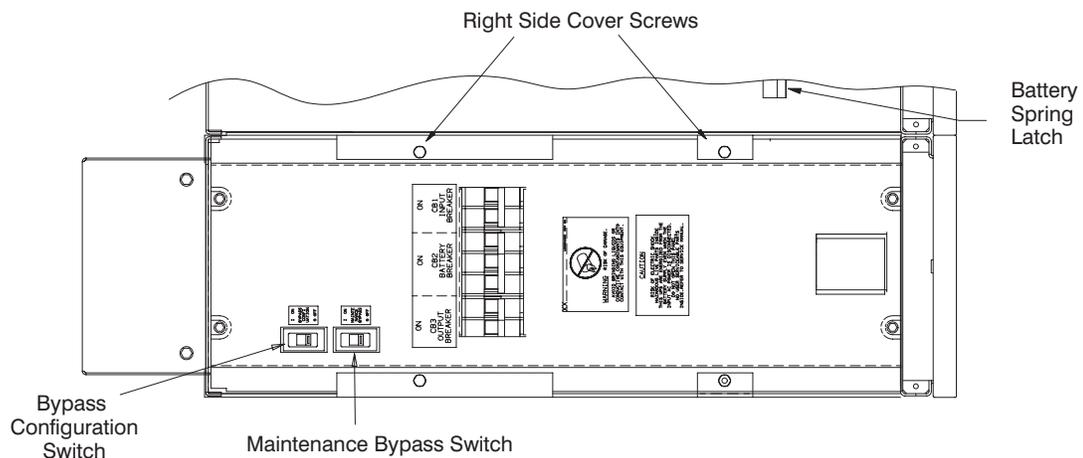

Figure 10. Top View with UPS Cover Removed
1. Locate the Bypass Configuration switch and Maintenance Bypass switch on the top panel of the UPS (see Figure 10 on page 39).